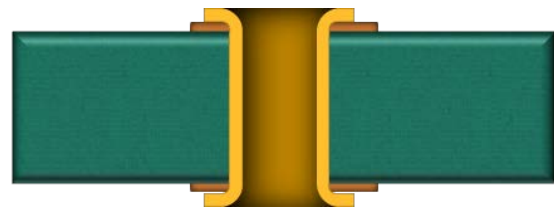
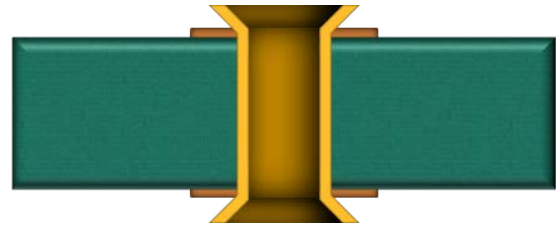
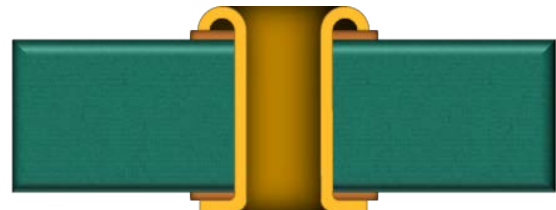

Figure 07-9 Flat-Set Eyelets
Figure 07-10 Funnelet
Figure 07-11 Roll-Set Eyelet
The flange angle (FA) further identifies the eyelet with a flanged head (Figure 07-10 Funnelet).
A flat-set eyelet (Figure 07-9) is the industry standard and sits flat on the circuit pad when installed.
Unlike the flat-set eyelet, the funnelet (Figure 07-10) has an angled flange.
A roll-set eyelet (Figure 07-11) is similar in appearance to the flat-set, except for a slight arc in the flange area.
The flat-set eyelet (Figure 07-9) provides reinforcement for the pads on both sides of the CCA and reinforces the hole itself. The design of the flanged head of the funnelet (Figure 07-10) and the roll-set eyelet (Figure 07-11) does not allow for this type of support.